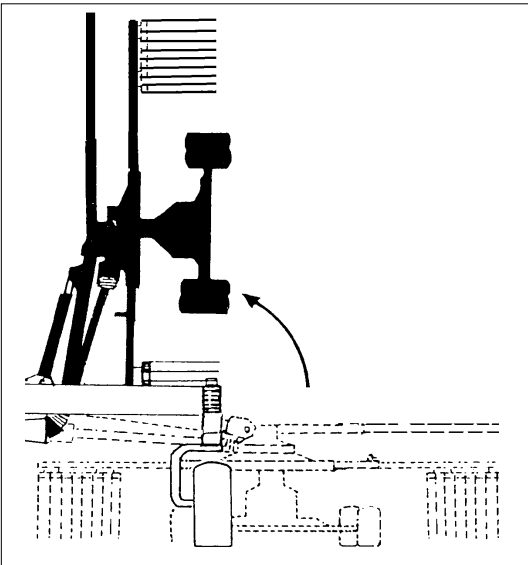
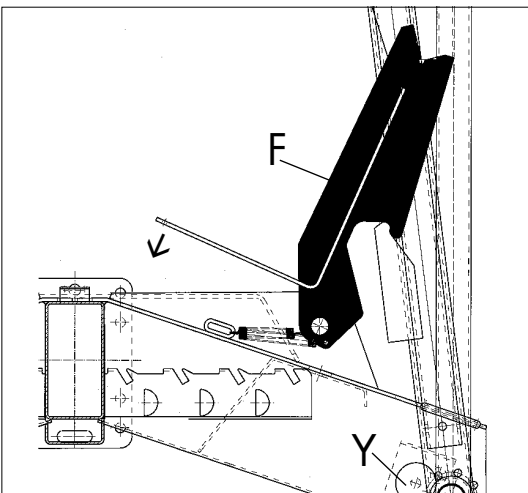

Fig. 3-15
Fig. 3-16
3. Open the hydraulic stop valve, raise the lateral machines with the tractor hydraulic system (fig. 3-15), releasing the lift limits with the black unlocking cable until the segments engage on the lift arms in the lift limit (F) (fig. 3-16) and both hydraulic cylinders are completely retracted. Pull the cylinder up to the end of its stroke. Lower the hydraulic chassis frame (optional equipment of type 6958). To do this operate the ball cock using the rope and set the tractor spool valve to LOWER. Then close the hydraulic stop valve again so that it is not possible for the lateral machines to be lowered during road transport by unlocking the lift limits by mistake.